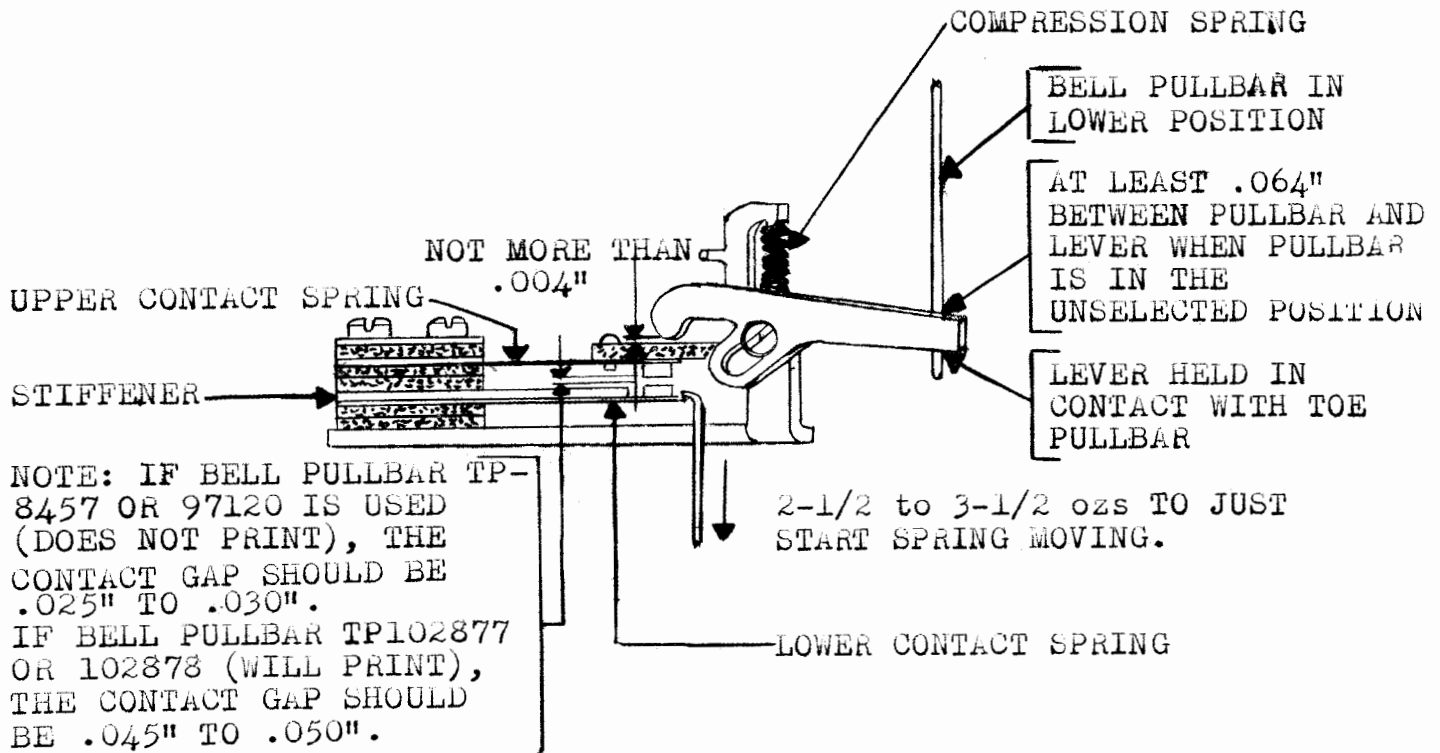

Figure 16
2.26 Remote Signal-bell Contacts: (See Figure 16 for location of parts and requirements.)